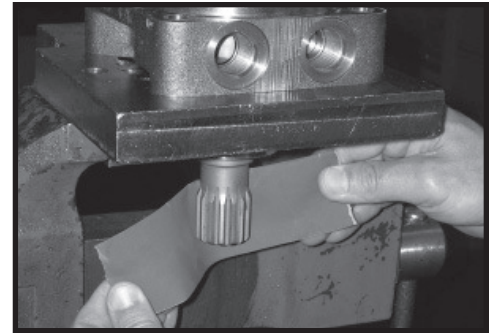

Figure 19
14. Check exposed portion of coupling shaft (12) to be sure you have removed all signs of rust and corrosion which might prevent its withdrawal through the seal and bearing. Crocus cloth or fine emery paper may be used. SEE FIGURE 19. Remove any key (12A), nut (12B), washer (12C), bolt (12D), lock washer (12E), or retaining ring (12F).